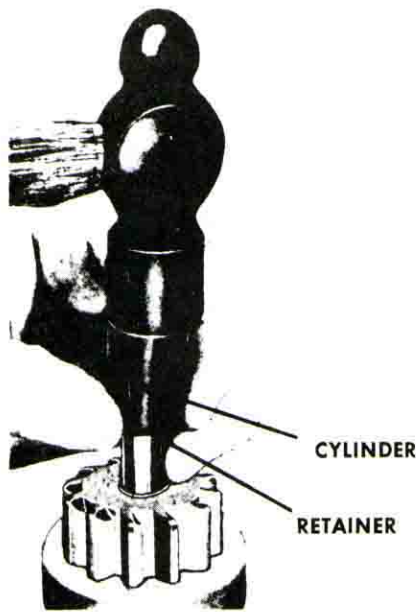

Figure 7—Removing retainer from snap ring.
6. Slide a standard half-inch pipe coupling or other metal cylinder of suitable size (an old pinion of suitable size can be used if available) onto shaft so end of coupling or cylinder butts against edge of retainer. Tap end of coupling with hammer, driving retainer towards armature and off snap ring (Fig. 7).